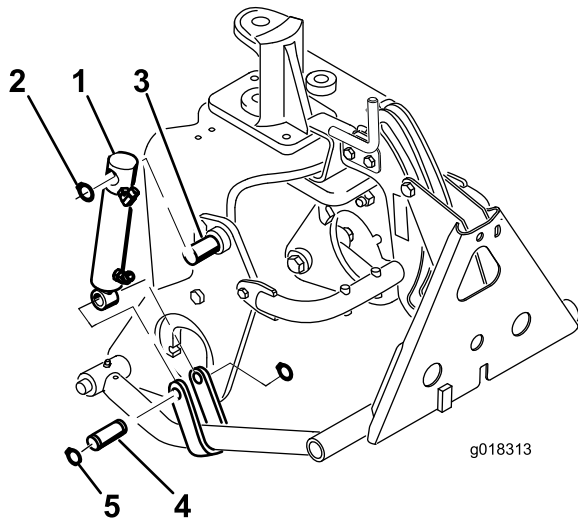

Figure 12
ring (Figure 12). The cylinder hydraulic ports are to be positioned forward.
4. Mount the cylinder rod to the push arm straps with a pin and 2 retaining rings (Figure 12).